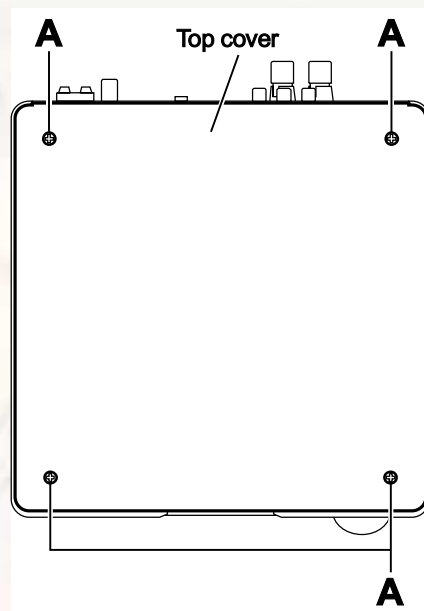

Fig.1
3.1.1 Removing the top cover (See Fig.1)